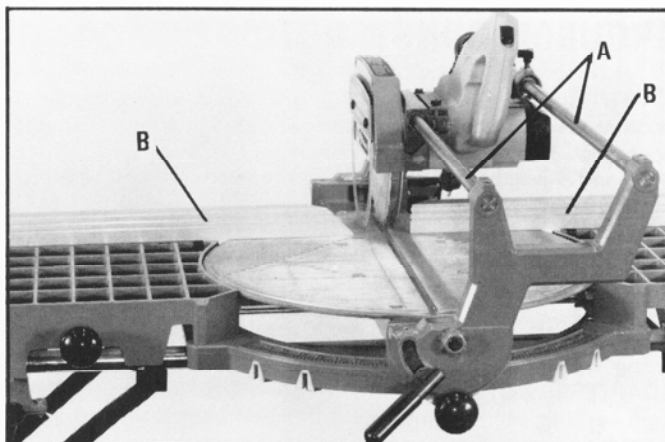

Fig. 19
When rotating the arm (A) Fig. 19, for miter cuts, the clamping action of the fence halves (B) must be released.